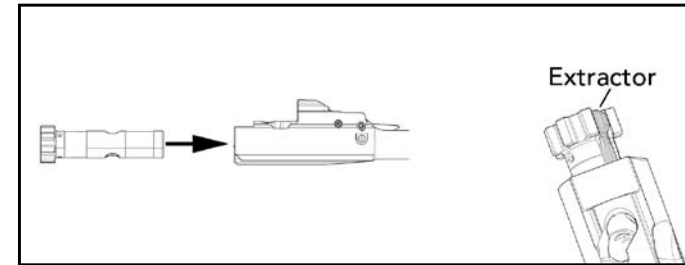

Fig. 44 – Bolt Carrier reassembly
- c. Slide the bolt head into the bolt carrier until the circular mounting surface for the cam pin on the bolt heads aligns with the front of the raceway on the bolt head carrier. Pointed down range, the extractor should be on the right hand side of the bolt carrier and ejector should be on the left (Fig. 44).